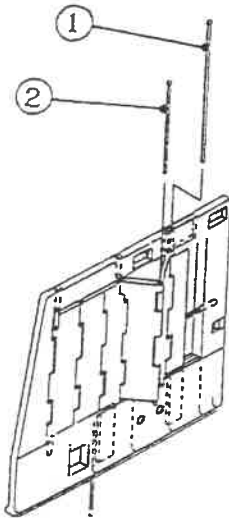

Figure 1
2. Remove the rear shuttle pin (see 1, figure 1). When removing pin, use caution not to bend pin. If pin is bent the gate will not operate correctly. Replace bent pin with W216-7.
3. Remove the rear knuckle pin (see 2, figure 1). If there is no existing kicker spring, discard the pin. When removing pin, use caution not to bend pin. If pin is bent the gate will not operate correctly. Replace bent pin with W216-1.